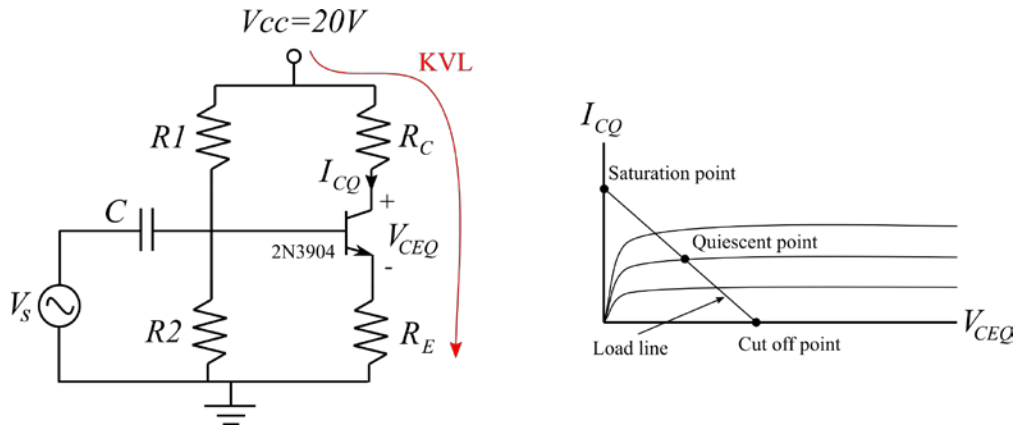

Figure 1: The basic biasing circuit for the BJT amplifier.
1. For the circuit in Figure 1, the transistor is biased so that I_{CQ} is 10 mA and V_{CEQ} is 8 V. As a starting point, let V_{RE} be 20% of V_{CC} . **Calculate the values needed for R_E and R_C .** Assume β is 100. Select the nearest standard values for the two resistors.